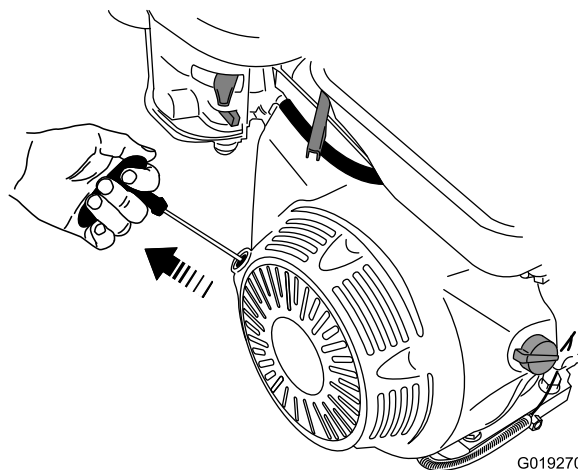

Figure 27
7. Pull the recoil start handle lightly until you feel resistance, then pull the handle briskly. Return the starter handle gently (Figure 27).